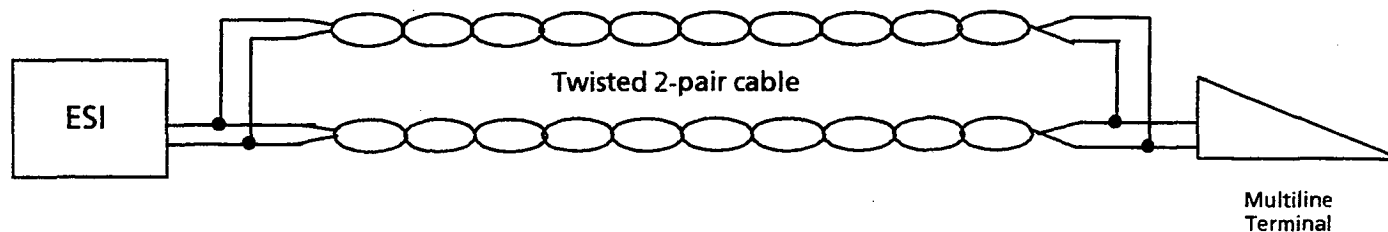

Figure 2-2 Connecting the ESI to the Multiline Terminal Using Twisted 2-Pair Cable
- Note 3:** When additional length is required between the ESI and a Multiline Terminal, Attendant Add-On Console, or SLT Adaptor, use twisted 2-pair cable as shown in Figure 2-2 Connecting the ESI to the Multiline Terminal Using Twisted 2-Pair Cable.